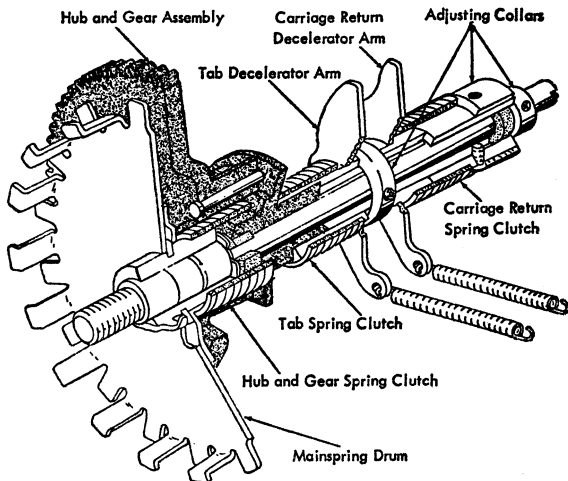

Figure 17. Decelerator
The decelerator is a control mechanism for the centrifugal-governor. It consists of a series of spring clutches and cam arms that control the action of the centrifugal-governor (Figure 17). The decelerator-governor action absorbs carriage shock and controls the speed of the moving carriage. It eliminates the tab rebound check-lever, the air cylinder and the horseshoe shaped tab-lever mounting-bracket.
1. SPRING - CLUTCH COLLARS. The tabulation and carriage-return spring-clutch collars should be positioned on the shaft so as to allow their decelerator arms to rotate freely without exceeding .003" end play of the arms on the shaft (Figure 17).